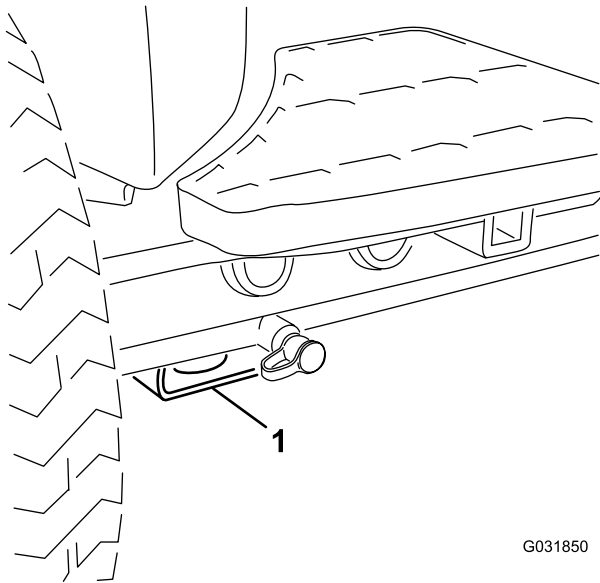

Figure 71
- Front—rectangular pad, under the axle tube, inside each front tire (Figure 71).